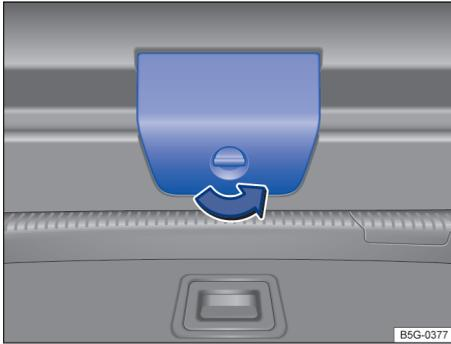

Fig. 61 Inside the luggage compartment: Cover for the trunk lid release.
- Unlock the cover by turning the knob in the direction of the arrow → fig. 61. Pull the cover toward you to open.